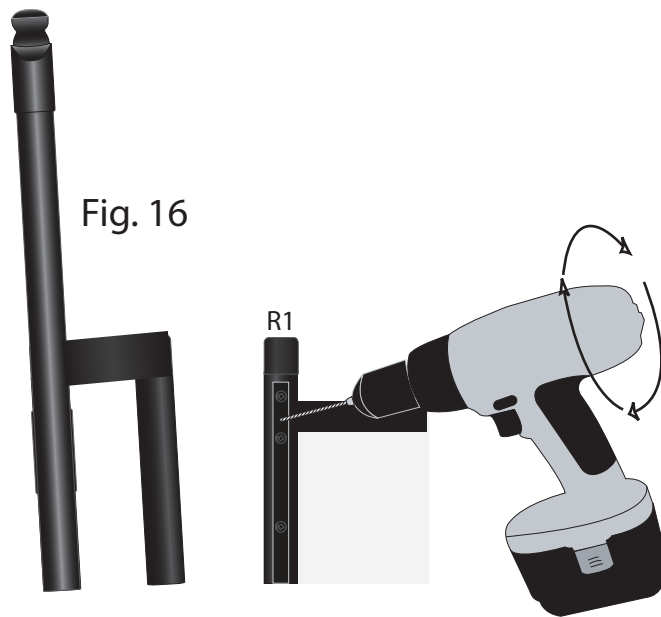
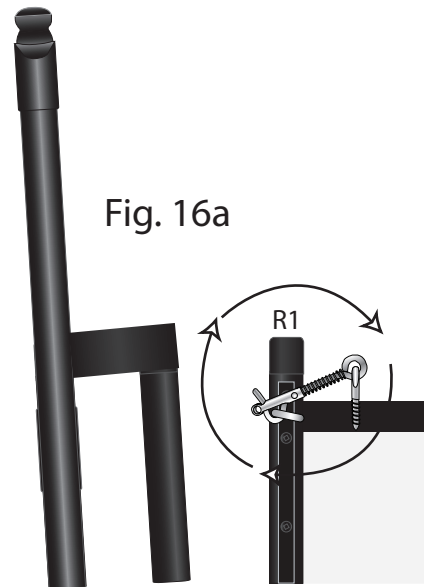

Fig. 16
Fig. 16a
- Next, using your drill and 1/8" drill bit, drill through pilot hole in pole R1 and bevel. See Fig. 16. Then screw your latch into the hole you just drilled into pole R1 Fig. 16a